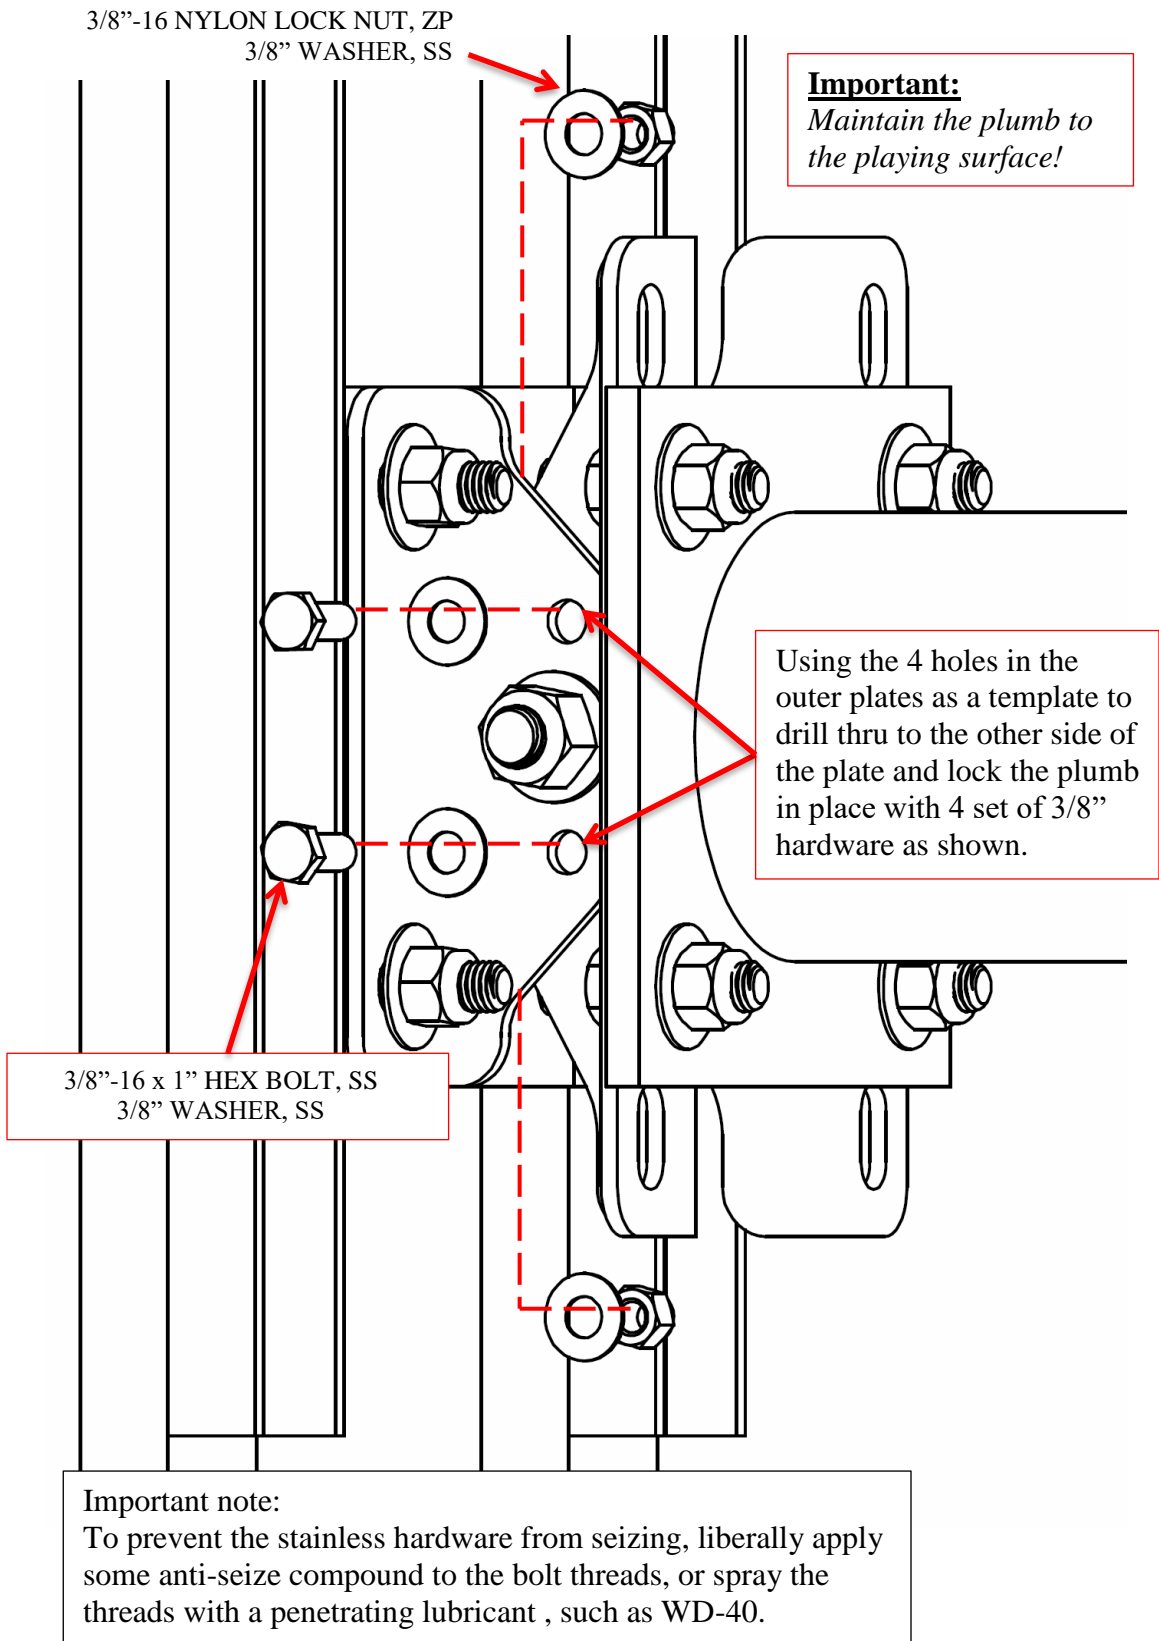

Figure 10
4. Using the 4 holes in the outer plates as a template to drill thru to the other side of the plate and lock the plumb in place with 4 set of 3/8" hardware as shown (Figure 10).